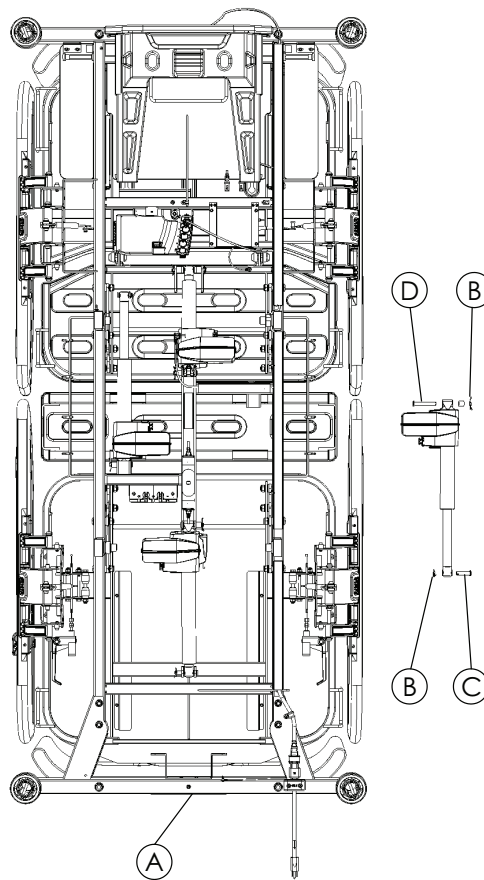

Figure 4 – Head end lift actuator
2. Support the head end litter cross brace (A) to support the head end litter (Figure 4).
6. Using needle nose pliers, remove and discard the rue ring cotter pins (B) from each clevis pin (Figure 4).
7. Using one hand, support the head end lift actuator and remove and discard the head end clevis pin (C) then allow the head end lift actuator to pivot down (Figure 4).
8. Using one hand, support the head end lift actuator and remove and discard the foot end clevis pin (D) and spacer (Figure 4).